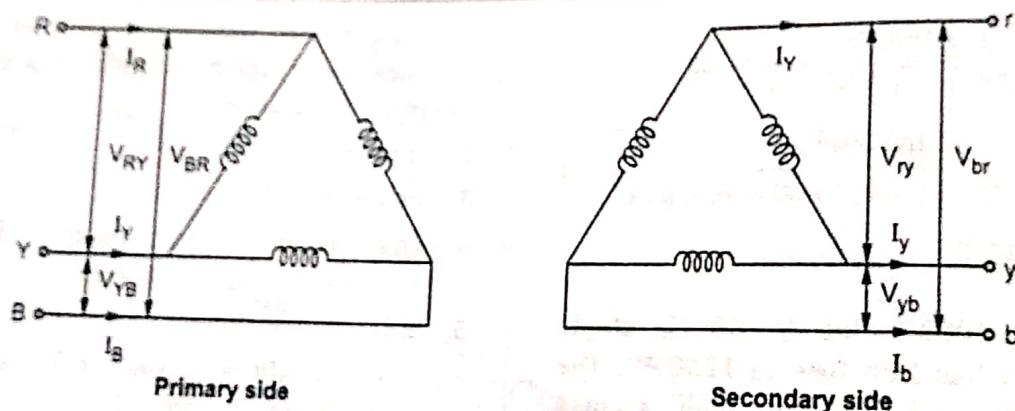

Fig. Q.28.2 Delta-Delta connection
- In this, both the primary and secondary windings are connected in delta as shown in the Fig. Q.28.2.